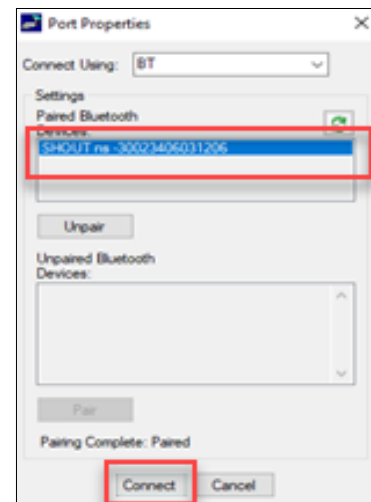

Figure 21: Port Properties
4. Select the **SHOUT ns** in the Paired Bluetooth Devices list (see **Figure 21**).
5. Select **Connect** (see **Figure 21**).